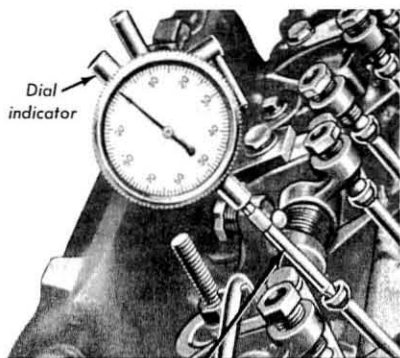

FIG. 1—Camshaft Lobe Lift
3. Make sure the push rod is in the tappet socket. Install a dial indicator in such a manner as to have the actuating point of the indicator in the push rod cup and in the same plane as the push rod movement (Fig. 1).